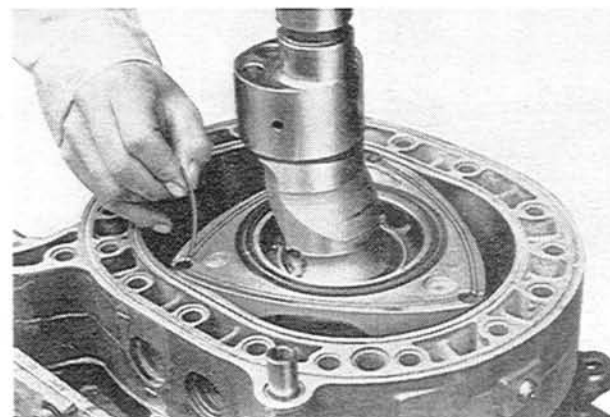

Fig. 1-85 Fitting apex seal spring
2. Install the each apex seal spring to the reverse side of the apex seal as shown in Fig. 1-85.